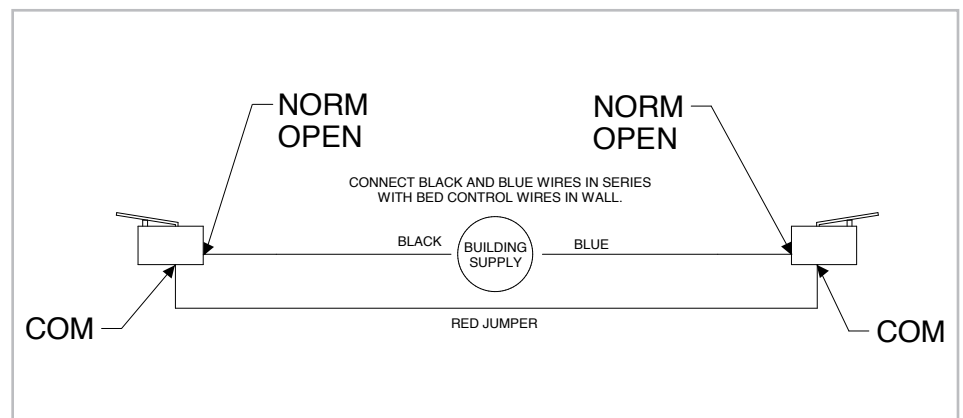

Figure 4: Bed Safety Switch option: cuts off power to the electrical receptacle for the motorized patient bed if the fixture is displaced.
3. If the Bed Safety Switches (BSS) are present, connect the leads from the fixture labeled "BSS" in series with the wiring to the wall receptacle that the motorized patient bed will be plugged into.. See the wiring diagram in **Figure 4**.